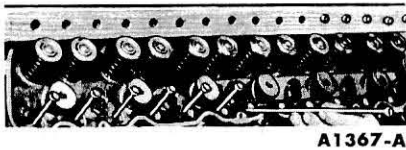

FIG. 25—Valve Push Rod Removal
9. Remove the valve rocker arm shaft assembly. Remove the valve push rods in sequence (Fig. 25).